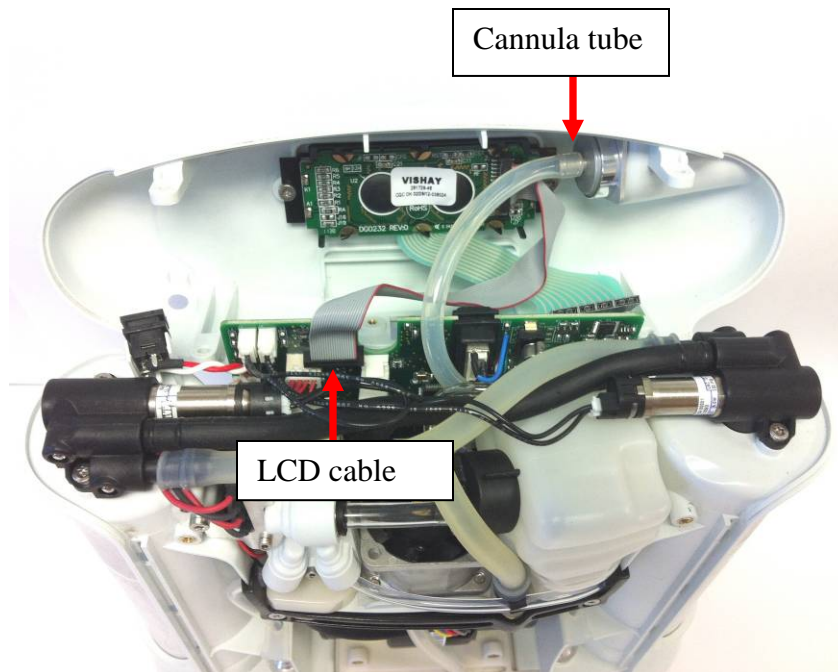

Figure 8: Remove cannula tube and LCD cable
8. Gently unplug the cannula tube from the user interface panel and the LCD cable from the motherboard (Figure 8) and set the user interface panel aside.